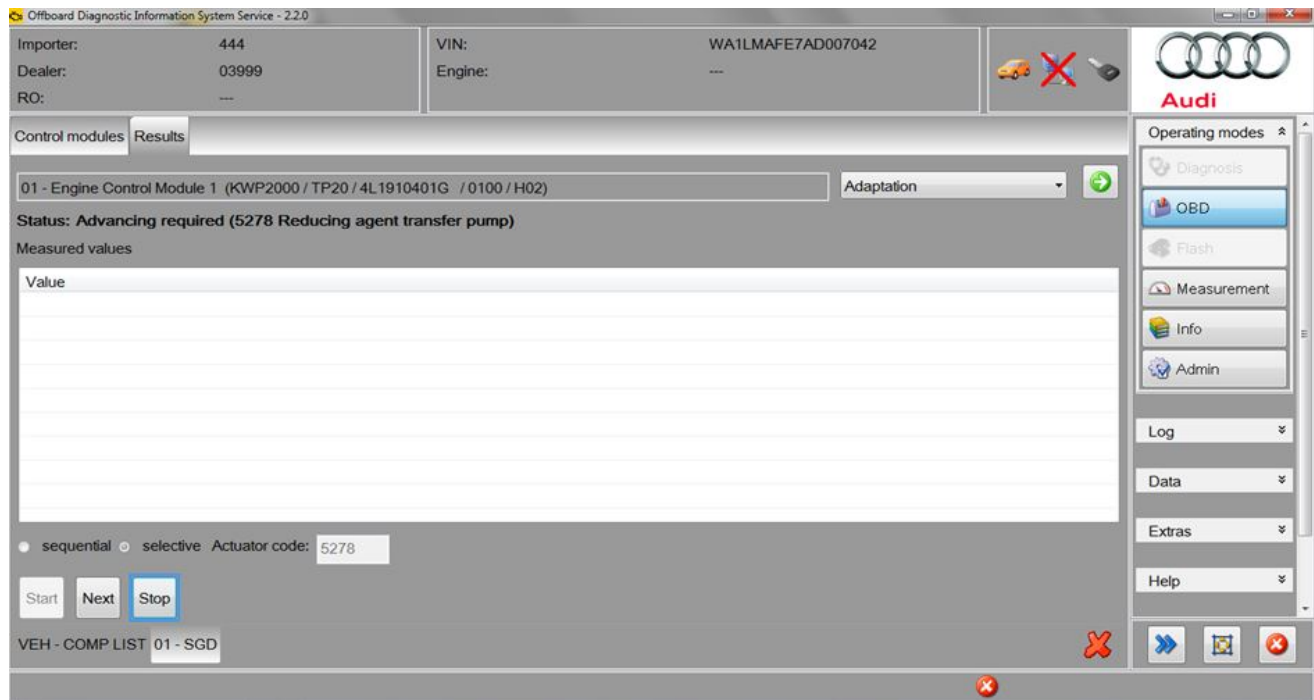

Figure 1. Output test of SCR transfer pump in ODIS for KWP2000 vehicles.
3. Click Start to begin the output sequence (Figure 1).